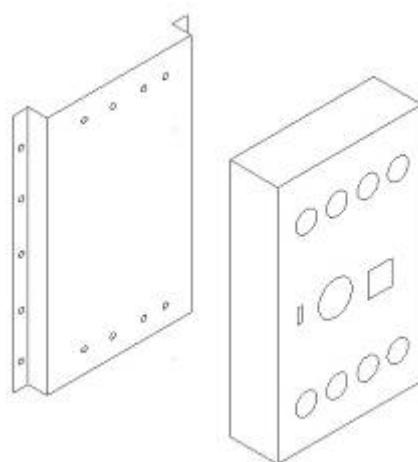

Fig. 3.28
1)Install the control box into to wall panel near the generator shown in Fig.3.28, and install the installation panel onto the wall with nail, then install the control box on to the panel.